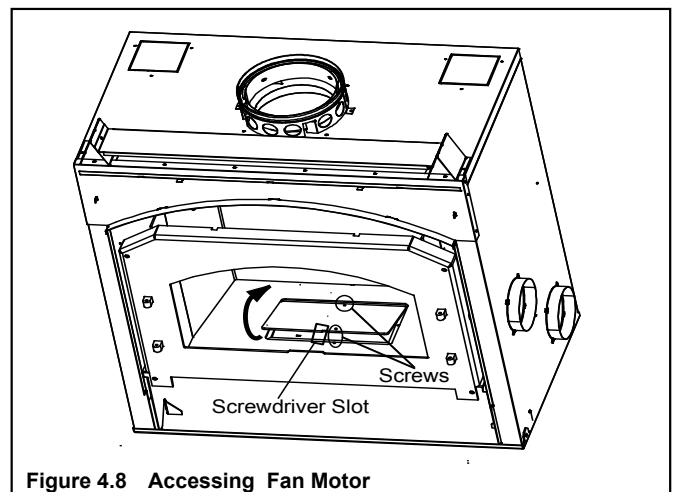

Figure 4.8 Accessing Fan Motor
3. Remove the 2 screws from the access panel in the firebox floor. See Figure 4.8. Pry up panel with screwdriver and remove panel.